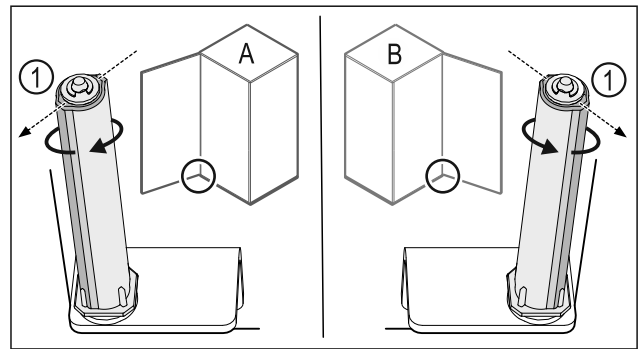

Fig. 36 Left stop (A) / right stop (B)
- Turn the locking system against the resistance until the bar on the locking system Fig. 36 (1) is pointing outwards.